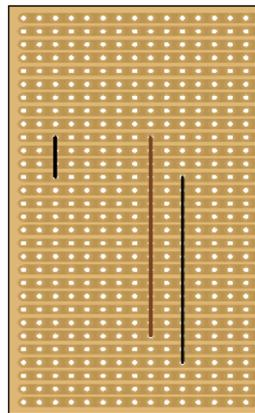

Figure 5-27. *Linking the tracks*
3. Cut and strip the wire for the links, removing about 5mm of insulation at each end. Bend the ends over, and place in position for each link. The links are the brown and black lines going from top to bottom of the board in Figure 5-27. Then turn over the board and solder the links into place. Trim the leads with the side cutters after soldering them.